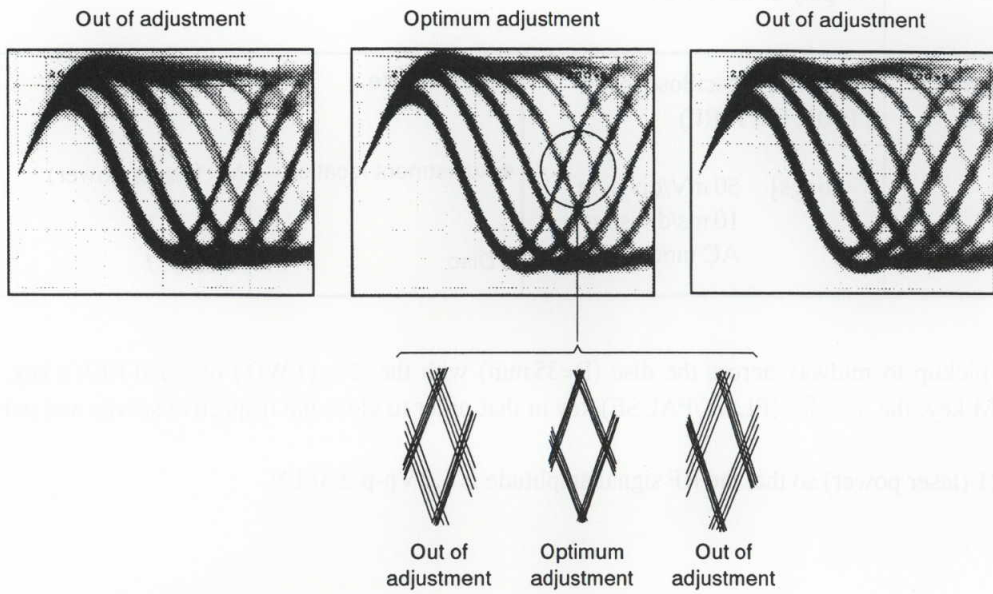

Figure 5 Eye pattern
3. Next, adjust the tangential tilt adjustment screw with a hex. wrench (L-shaped type, size: 1.5mm) so that the eye pattern (the diamond shape at the center of the RF signal) can be seen the most clearly (Figure 5).